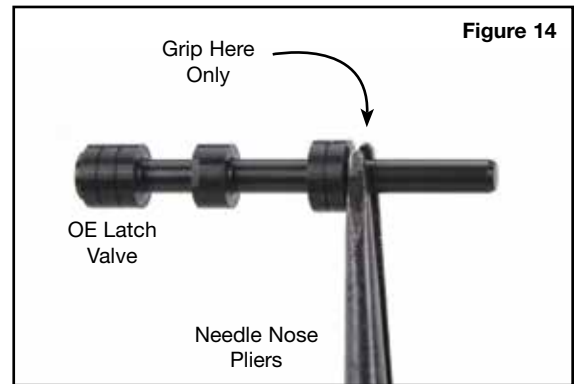

Figure 14
- e. Using a pair of needle nose pliers/vice grips, grip the valve on the spring stem at the base of the critical spool (Figure 14).